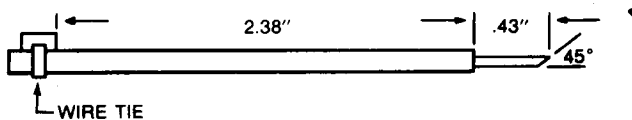

Fig. 3 - HV Cable Reassembly
**Caution:** To remove the anode lead, release the tab on the HV Splitter housing, then pull the lead and collar out of the HV Splitter housing. To reinstall the cable, first slide the collar into the HV Splitter housing until the first "click" is heard. Then insert the lead through the collar into the HV Splitter housing until the wire tie contacts the collar (see Fig. 3). Finally, slide the collar (and lead) into the HV Splitter housing until a second "click" is heard.
**Caution:** To remove the HV focus cable, release the tab on the HV Splitter housing, then pull the lead and collar out of the HV Splitter housing. To reinstall the cable, first slide the collar into the HV Splitter housing until the first "click" is heard. Then insert the lead through the collar into the HV Splitter housing until the wire tie contacts the collar (see Fig. 3). Finally, slide the collar (and lead) into the HV Splitter housing until a second "click" is heard.
**Caution:** To remove a HV cable, release the tab on the HV Splitter housing, then pull the lead and collar out of the HV Splitter housing. To reinstall the cable, first slide the collar into the HV Splitter housing until the first "click" is heard. Then insert the lead through the collar into the HV Splitter housing until the wire tie contacts the collar (see Fig. 3). Finally, slide the collar (and lead) into the HV Splitter housing until a second "click" is heard.